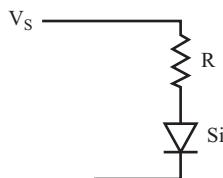

FIGURE 12.1
18. In the circuit shown in Figure 12.1, $V_s = 5$ volts and $R = 1 \text{ k}\Omega$. Find the current through the diode, I_D . _____
19. For the circuit shown in Figure 12.1, $V = 12$ volts and $R = 100 \text{ ohms}$. Find I_D . _____